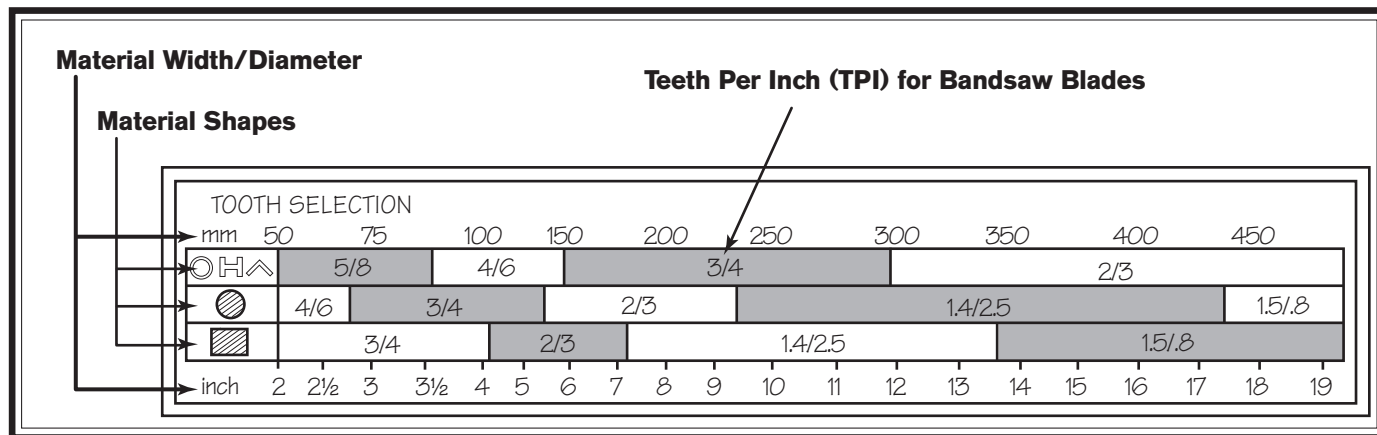

Figure 19. General guidelines for blade selection and speed chart.
2. Refer to the "Material Width/Diameter" row of the blade selection chart in **Figure 19**, and read across to find the workpiece thickness you need to cut.